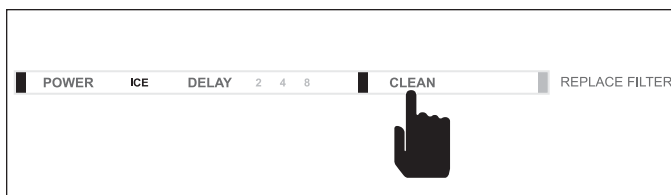

Figure 4-2. Start Clean Cycle, Press “CLEAN”
2. Press CLEAN button (See Figure 4-2). The ice machine will initiate a 2 minute harvest to remove any remaining ice from the evaporator. When that ice falls in the bin, remove it from the bin.